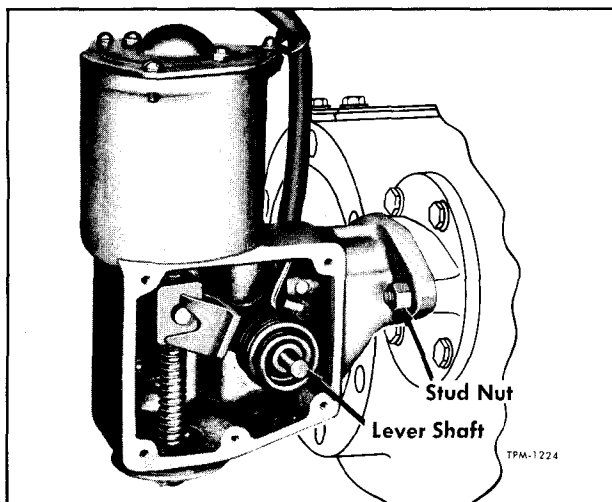
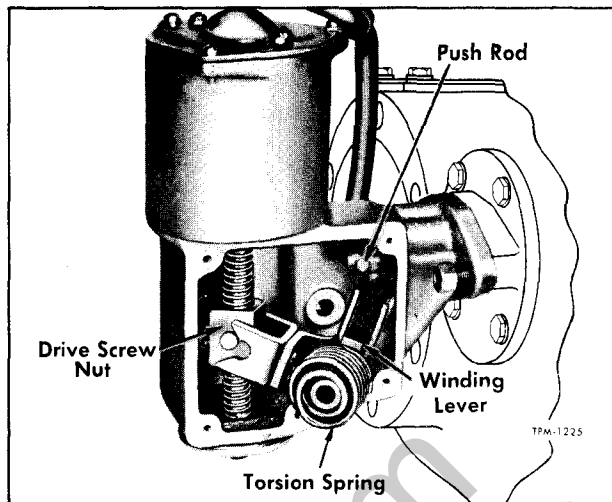

Figure 13—Shift Unit Cover Removed (Rockwell)
Figure 14—Torsion Spring Removal (Rockwell)
2. Remove five screws from shift unit housing cover, then remove cover. This also drains the lubricant. After cover is removed, note that drive screw nut is either at top or bottom (fig. 13) depending on whether axle is in "HIGH" or "LOW" range position.
3. Loosen shift unit-to-differential carrier stud nuts (fig. 13) to remove preload from shift unit spring.
4. Turn drive screw by hand to run nut to mid-way position on drive screw as shown in figure 14. This is necessary to prevent damage to drive nut contact bumper.
5. Pull out lever shaft (fig. 13). Disconnect torsion spring from push rod, then remove spring and spring winding lever (fig. 14).
4. On Rockwell electric two-speed, position shift unit on attaching studs and start attaching nuts. Turn drive screw by hand to run drive nut to mid-way position on drive screw as shown in figure 14, connect torsion spring to push rod (fig. 13) and insert lever shaft (fig. 13) and winding lever.